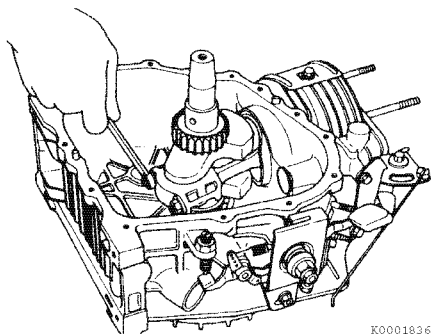

Figure 6-45
9. Remove the connecting rod bolts (**Figure 6-45**).